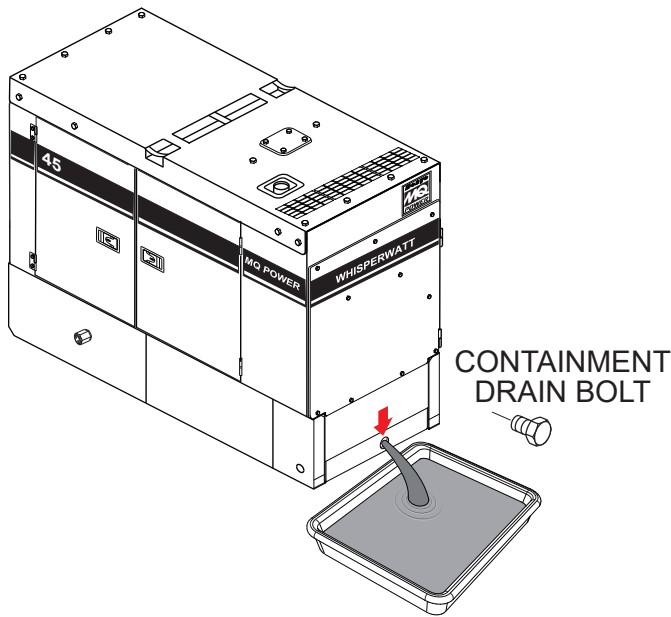

Figure 68. Draining The Containment Tank
2. If the tank becomes full with fluids, remove the drain bolt (Figure 68), then allow the fluids to drain into a suitable container.